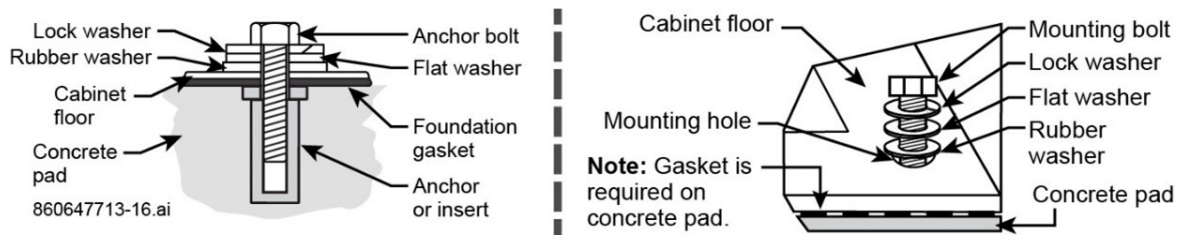

Figure 23. Fastening Cabinet to Concrete Pad
- Concrete Pad**—Thread bolts with washers into anchors or inserts, 1.5" bolts with 1/2" lock and flat washers, along with the rubber washers, Figure 23. Do not tighten bolts until all are in place.